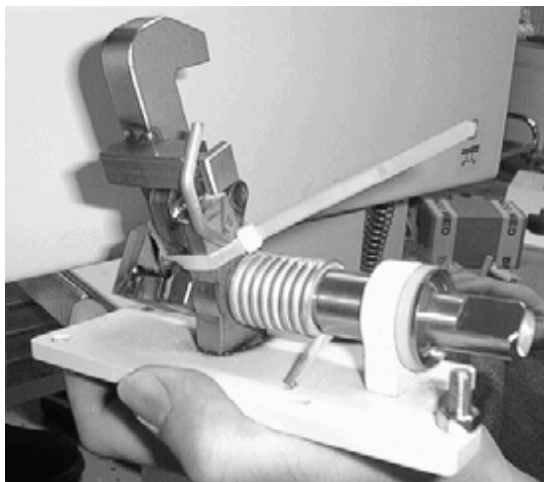

Fig. 66:
- With your fingers squeeze the mechanism together, try to hold it tight or use a tie wrap and tie up the mechanism as indicated in (Fig. 66 / p. 57).